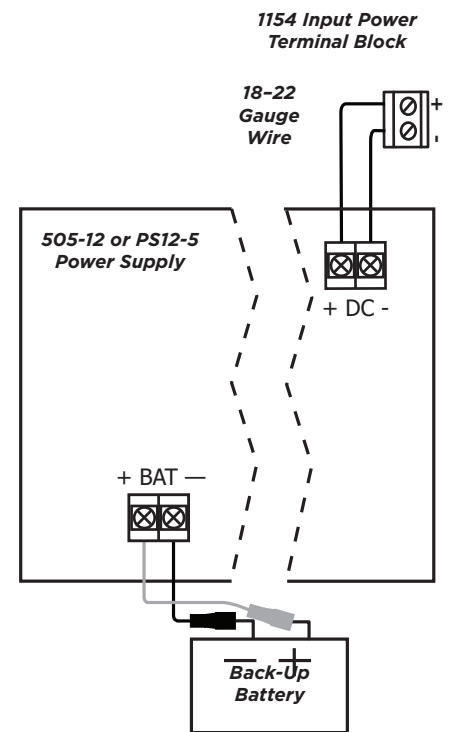

Figure 5: External 12 VDC Power Supply
2. Observing the polarity of all wired connections, use 18-22 gauge wire to connect the 1154's input power terminal block to the **+ DC -** terminal on the 505-12 or PS12-5 power supply. See Figure 5.